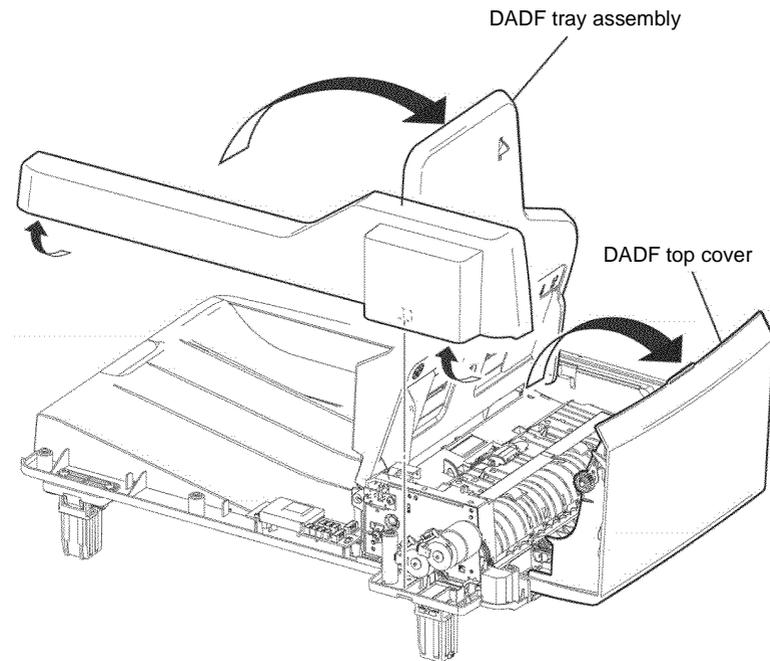

Figure 2 DADF rear cover removal
3. Open the DADF top cover and DADF tray assembly, then remove the DADF rear cover, Figure 2.